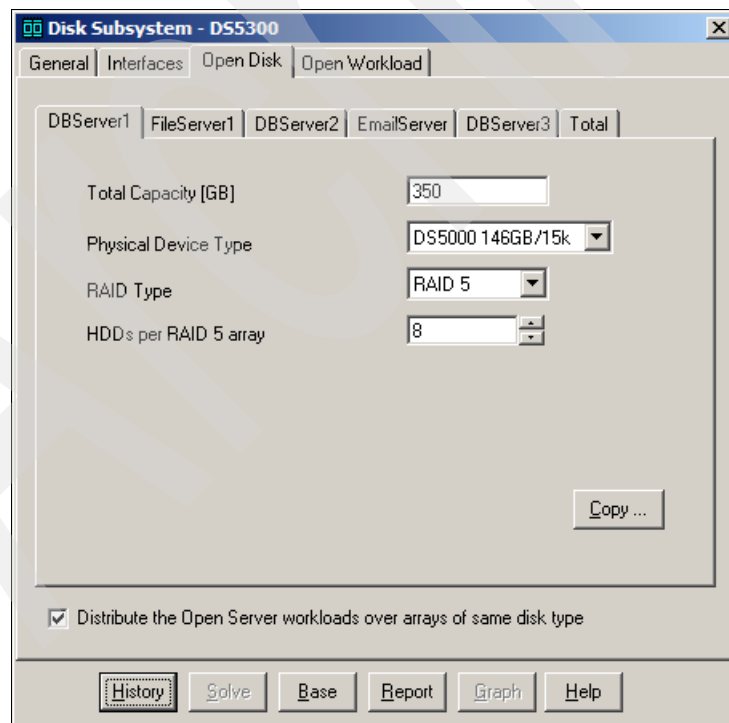

Figure 10-27 Set the disk size, number of disks, and RAID level
- The Open Disk page, shown in Figure 10-27, is used to describe the physical disk and Logical Drive (LUN) configuration for each host.
As you can see in Figure 10-27, Disk Magic creates a tab in the Open Disk page for each open server that has been defined in the model.